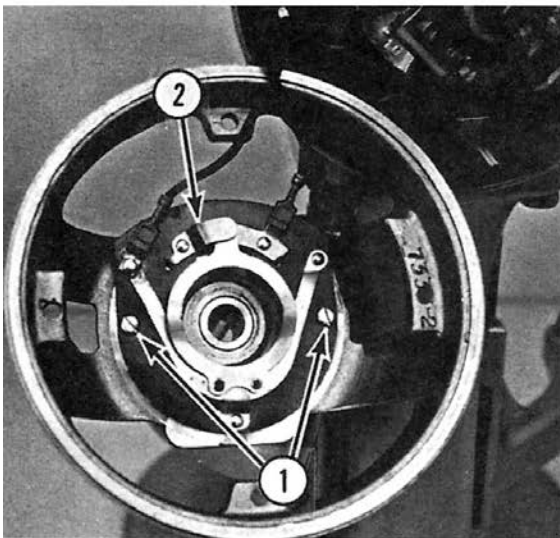

Fig. 4-8
- D. Remove the two screws (1, Fig. 4-8) and take off the switch (2, Fig. 4-8).